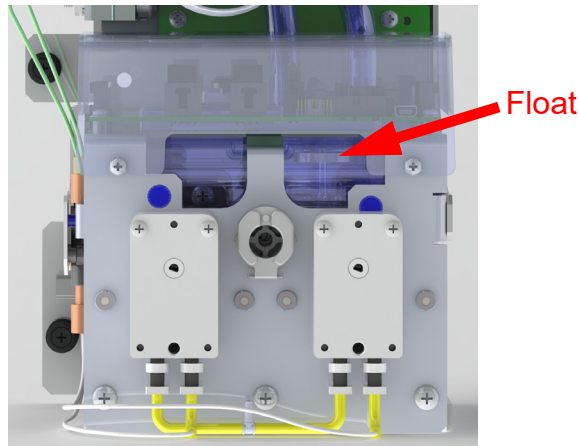

Figure 56: Water Reservoir with Float
NOTE: The float should be just below the top of the reservoir. Do not overfill (Figure 56).
8. Verify that the water line is **just below** the top of the reservoir (Figure 56). Add water as needed. See “To fill the DI water reservoir” on page 58).